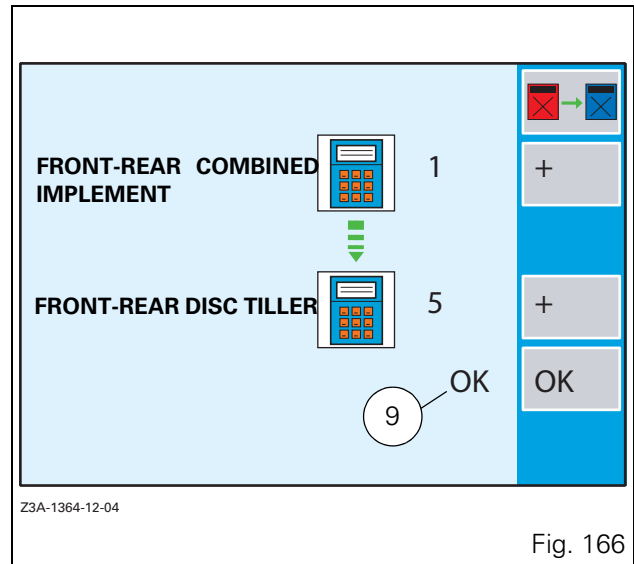

Fig. 166
- Validate by pressing the key «**5**. The symbol (OK) is displayed (9 Fig. 166).